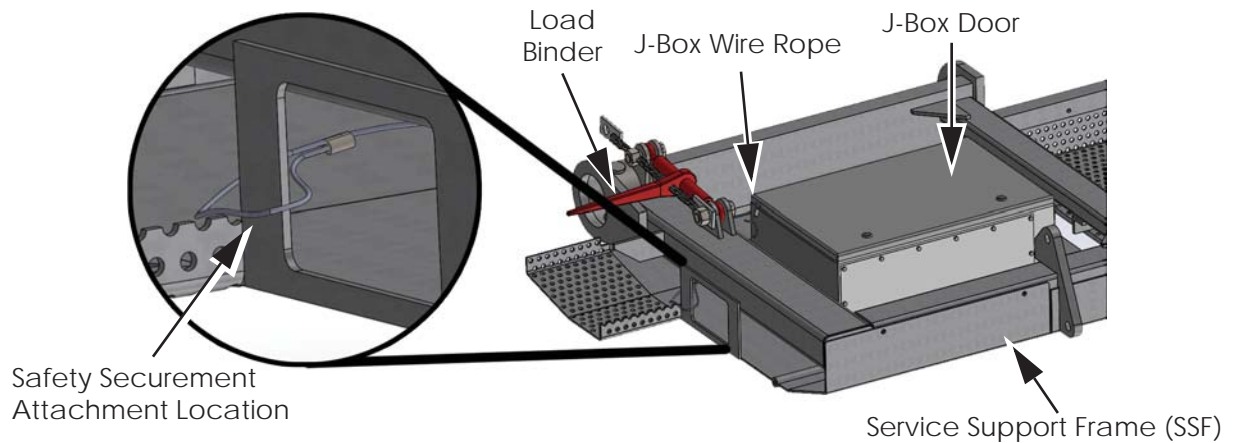

Figure 4: Service Support Frame Wire Attachment Location
5. Attach the other end of the 1/8" wire rope to the torque guide service support frame (SSF) as shown in Figure 4.